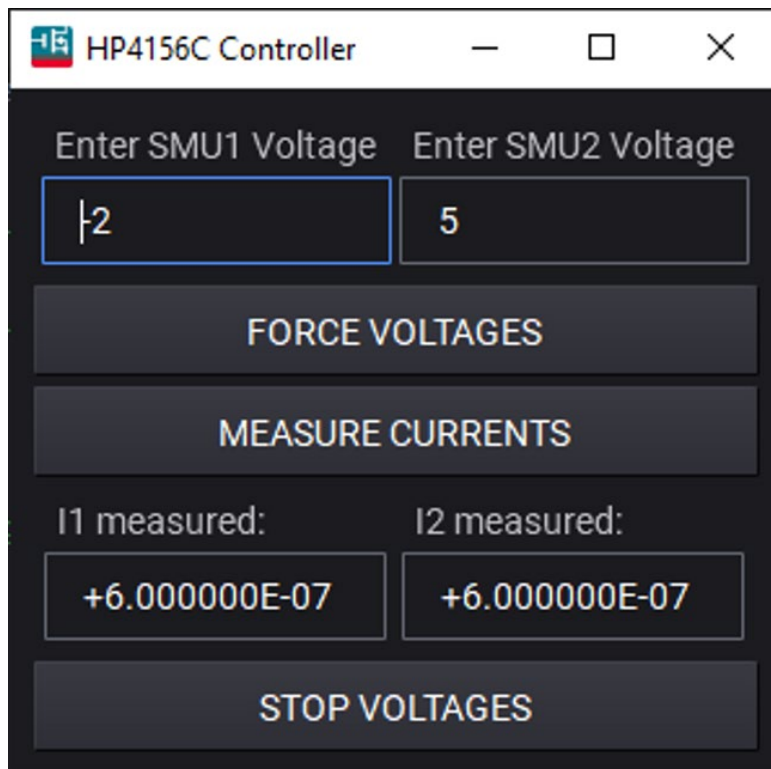

Fig. 11.3. HP4156C controller.
- 11.11 In the “HP4156C Controller” window (Fig. 11.3), set the voltages for SMU1 and SMU2, then click on “FORCE VOLTAGES” to let the PSPA apply voltages to the DUT. The resulting currents can be measured by clicking on “MEASURE CURRENTS.” The SMUs continue to supply voltages until “STOP VOLTAGES” is clicked on. With the SMUs activated, you can now command the VNA to measure S parameters with the DUT under external supplies. **Remember to click on “STOP VOLTAGES” when you finish all measurements or before moving to another device!** Otherwise, you may shock a device or person with live voltages.
- 11.15 Before exiting IC-CAP, make sure "STOP VOLTAGES" has been clicked on the "HP4156C controller" window shown in Fig. 11.3! If you are not sure, it doesn't hurt to click on it again.